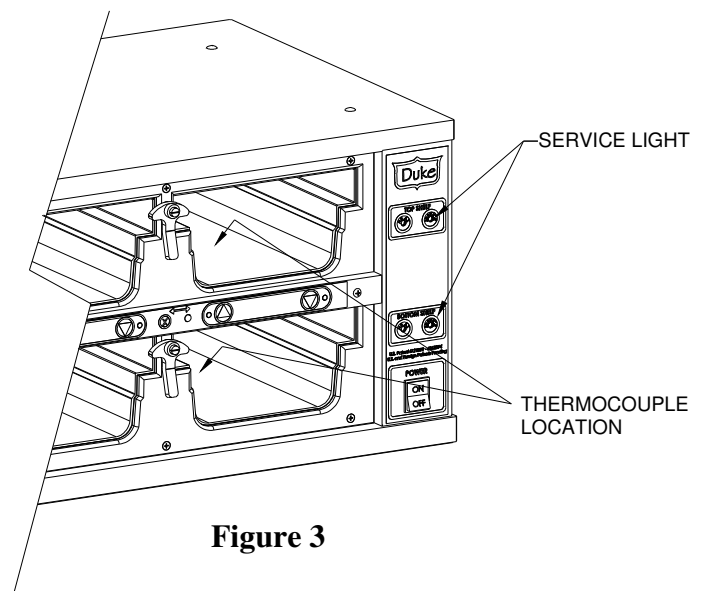

Figure 3
The Service Light is located on the front of the control next to the heat light (see Figure 3). It provides an indication to alert the operator to failures in the heater circuit. When a Service Light is on, the affected shelf should not be used until the cause of the fault is corrected by a qualified service technician. The fault conditions that could cause the control to turn the service light on are as follows:
4. Locate the surface temperature probe on the bottom of the first cavity in the geometric center. The first cavity is the one closest to the control panel (see Figure 3). Make sure the probe is making good contact with the surface while taking readings.